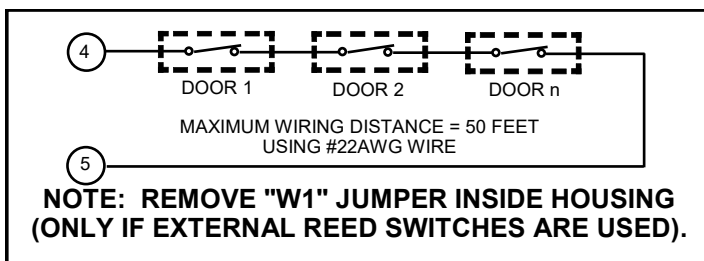

Fig. 2: Multiple door monitoring (wired in series).
5). Connect external reed-switch contacts to Terminals 4 and 5 and remove reed selection jumper W1 located in the center of the PCB. **Note:** If reed switches are wired in series as shown below in Figure 2, several doors may be monitored simultaneously. Using #22AWG wire, maximum wiring distance should not exceed 50 feet. **Note:** When external reed switches are used, the internal reed switches must be disabled by removing the reed selection (W1) jumper.